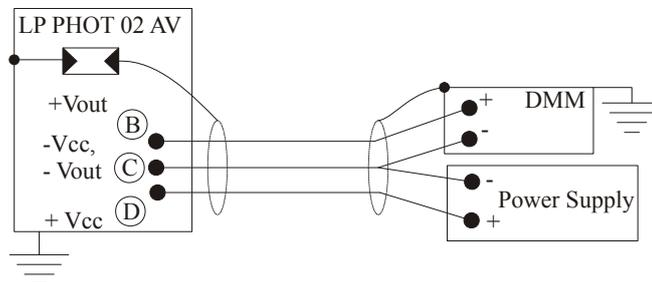

Fig. 9
- LP PHOT 02 AV is to be connected to a DMM and a power supply as show below (Figure 9). To read the signal, the load resistance must be  $\geq 100k\Omega$